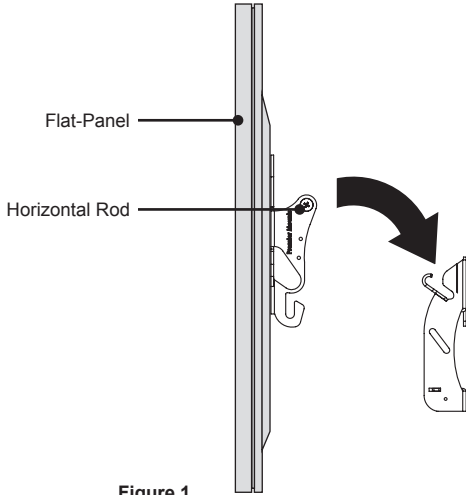

Figure 1
- 1) Slide the horizontal rod in the front component into the upper slot of the back component (Figure 1).